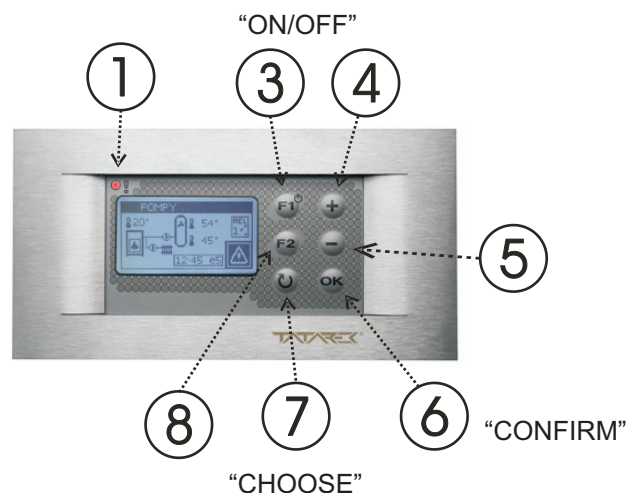

Fig.2 Control panel view
There are elements on the control panel (fig. 2). In the turn-off state only the orange standby state LED (7) lights and the graphic display shows current temperature of the water jacket and current time. The turn-on of the control unit follows by pressing the button (3) ON/OFF. In order to turn it off press once more the button (3) and at the same time hold it down for about 1sec. In case of supply voltage decline the control unit comes back to the state before the decline.